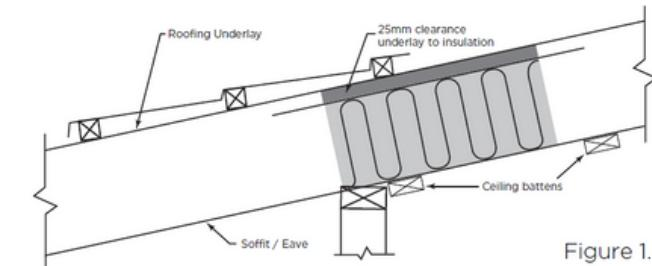

Figure 1.
- The product should not be in contact with the roof-underlay or roof cladding. If the insulation section is going to touch the roof cladding or underlay, use a thinner insulation to maintain a minimum of 25mm clearance (see figure 1). Make sure the product is firmly placed on the ceiling battens without any gaps.